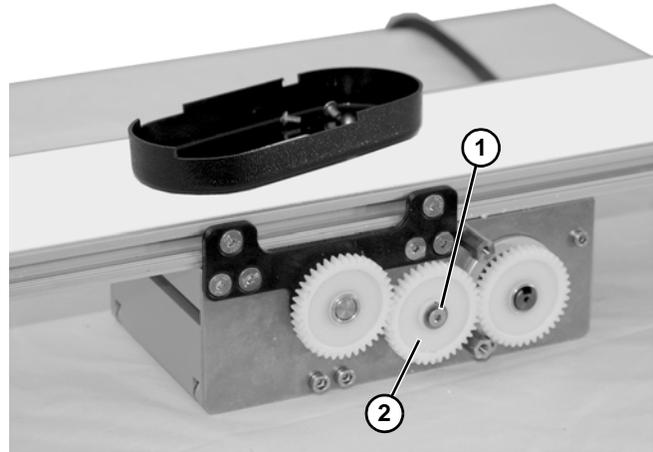

Figure 30
8. Remove screw (Figure 30, item 1) and washer from center gear (Figure 30, item 2).